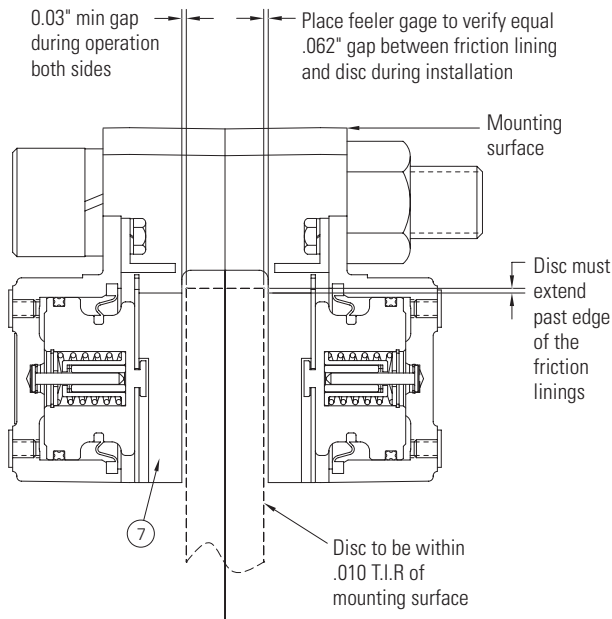

Figure 4
Before locating the holes for drilling in the mounting bracket, make sure the 225DP100 caliper disc brake friction shoe assemblies (7) will completely engage the disc. The friction material should not overhang the outer edge of the disc. The outside diameter (O.D.) of the disc must not rub against the cylinder block (11). See Figure 4.
- 2.1.4 Verify or set the initial gap between the friction shoes assemblies and the disc to approximately 0.063" (1.6 mm). See figure 4.
- 2.2.2 The 225DP100 caliper disc brake assembly can be installed using mounting surfaces located on either side of the 225DP100 caliper disc brake assembly. See Figure 4.
- 2.2.3 It is very important that the mounting bracket be properly aligned with the mounting surface of the 225DP100 caliper disc brake assembly. For proper operation and service life, alignment of the mounting flange to the shaft of the disc gear should be held within the limits shown in Figure 4. Note: that concentricity and perpendicularity values in Figure 4 are expressed as TIR (Total Indicator Reading) values.
- 2.2.4 Before final tightening of the mounting screws, engage the 225DP100 caliper disc brake assembly, tighten the screws, release the 225DP100 caliper disc brake assembly and check that the alignment is within the values in Figure 4.
- 2.2.5 After final tightening of the mounting screws, apply the 225DP100 caliper disc brake assembly and release the 225DP100 caliper disc brake assembly. Then recheck that the alignment is within the values in Figure 4.